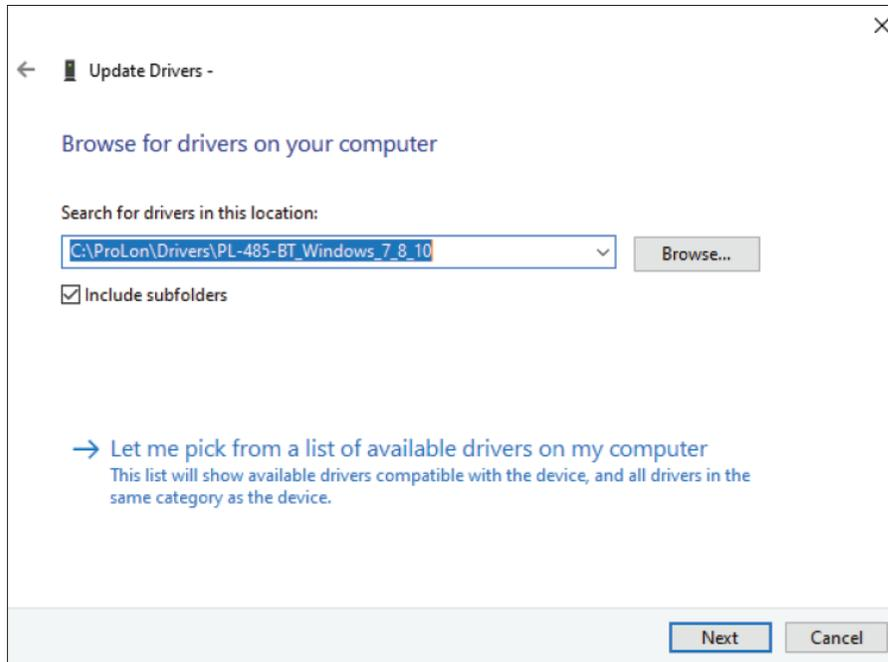

Figure 19
3. The location should point to the driver folder. (Figure 19)